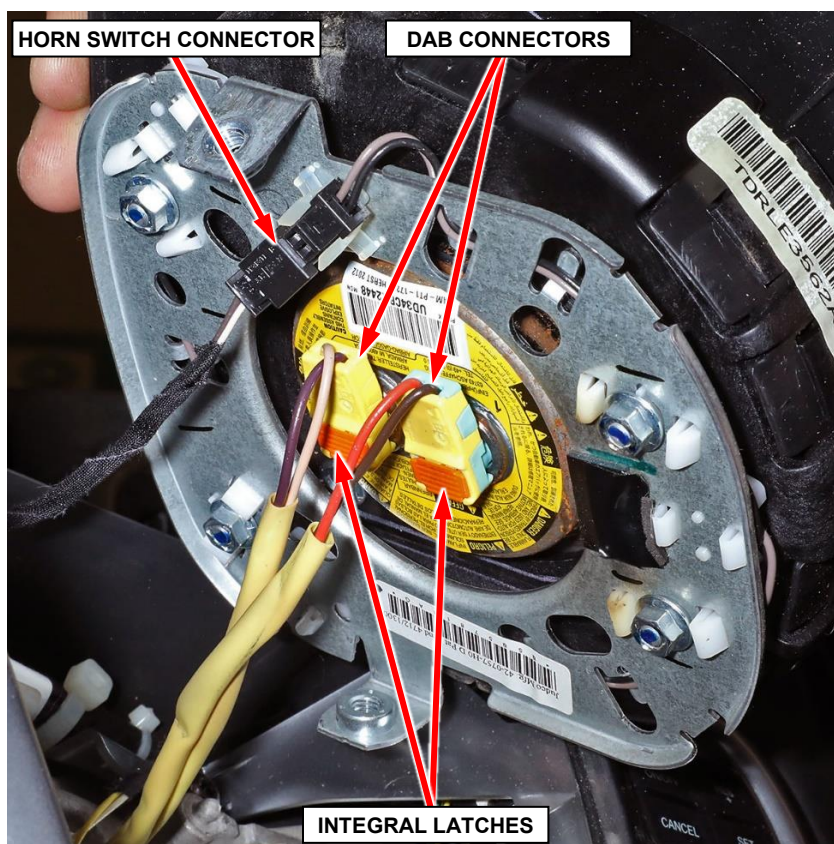

Figure 6 – Driver Air Bag
5. The clockspring DAB pigtail wire connector insulators are secured by integral latches to the air bag inflator connector receptacles, which are located on the back of the DAB housing. Pinch both latches firmly, then pull the insulators straight out from the air bag inflator to disconnect them from the connector receptacles (Figures 6 and 7).